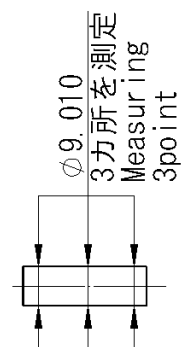

Fig. 12
④ Inspection and maintenance of the piston pin
- Measure the outer diameter of the piston pin, both ends, center vertically and horizontally (total 6 points). Replace the piston pin in case the measured diameter is less than $\phi 9.010\text{mm}$. (Fig.12)